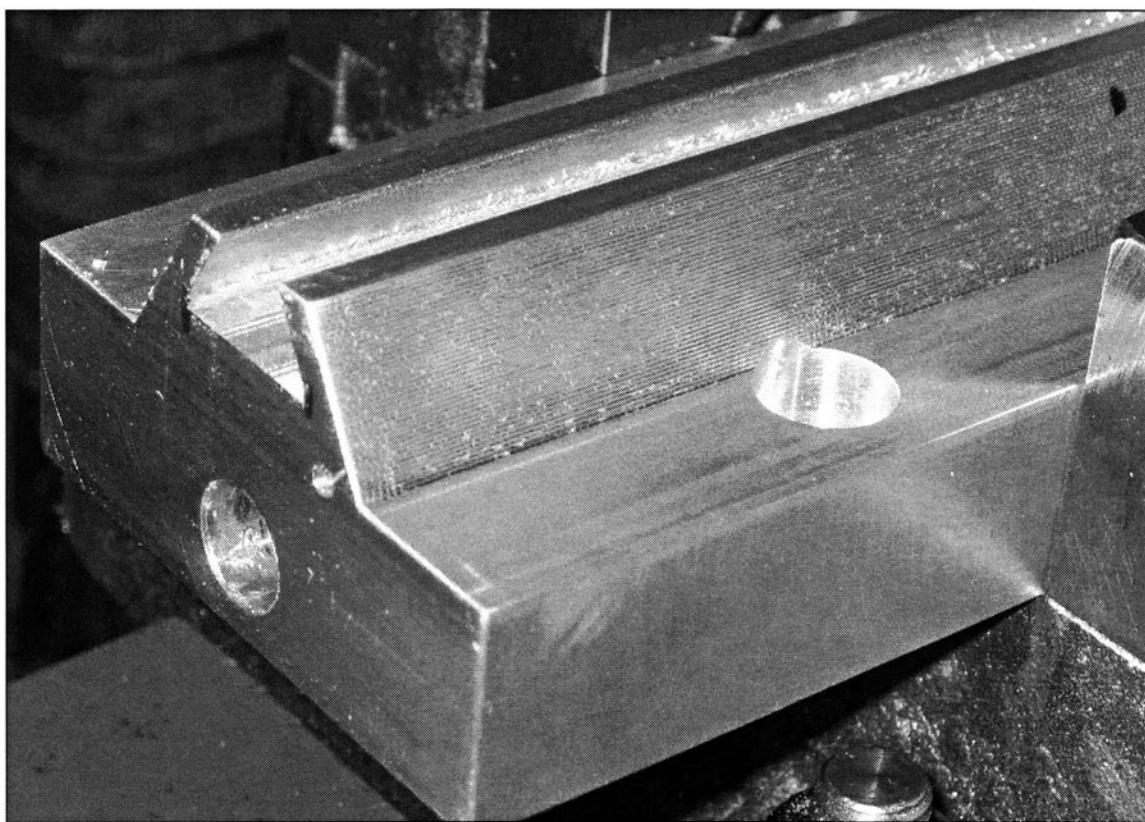

FIGURE 18-2 The angle on this part was created by cutting material away in small tracks...a process called "kellering".
29. *What is kellering? (See Fig. 18-2)*